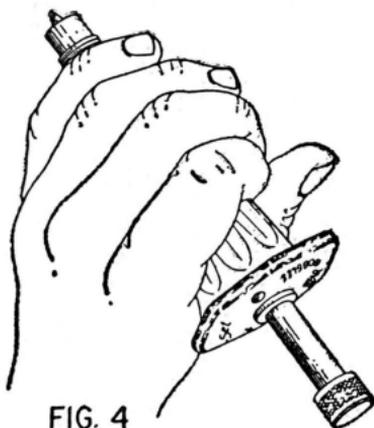

FIG. 4
- 3.02 Place point of fastener against exact location desired. See Fig. 4.